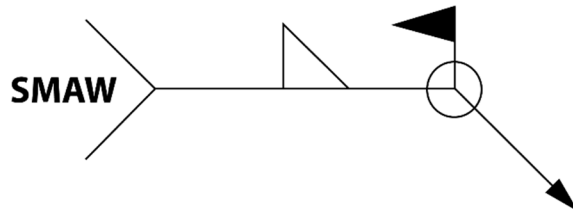

Figure 1
21. The size of the weld represented in Figure 1 _____ .